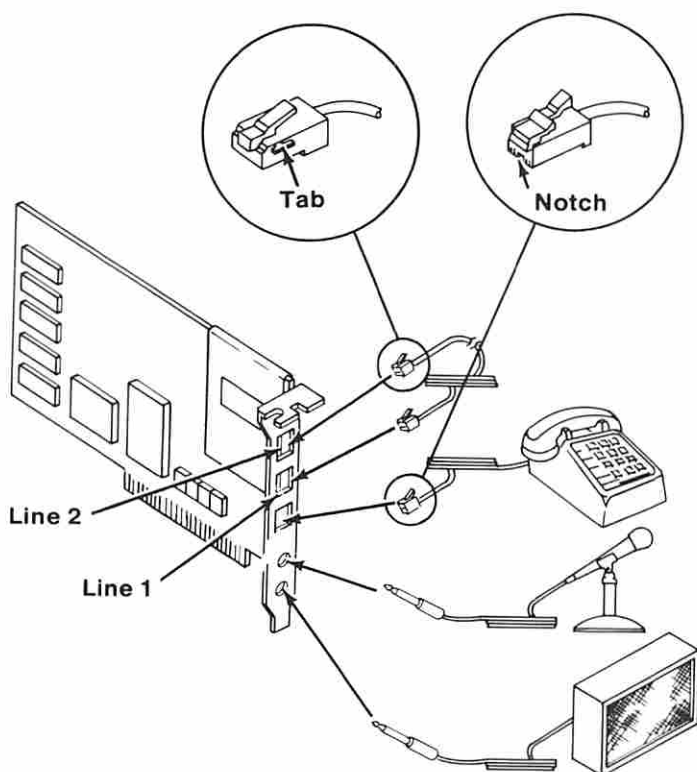

Figure 2. Wrap-Test Setup
- Refer to Figure 2 and perform the Wrap-Test setup as follows: